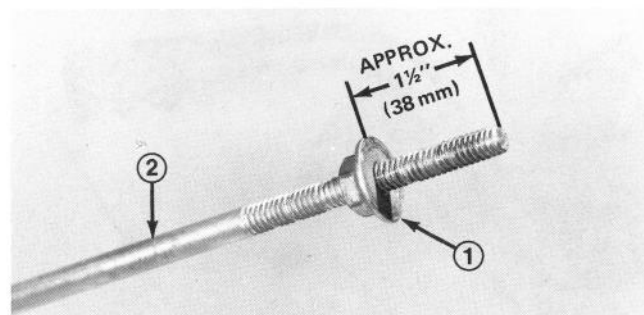

Figure 3
1. Thread a flange nut (flange side down) onto traction rod (Fig. 3).